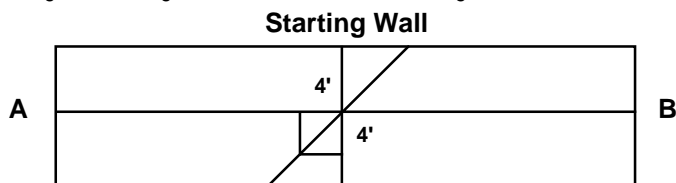

Figure 3
3. For some patterns such as herringbone, the diagonal working line is formed by striking a line through the center of the room. See Figure 3.